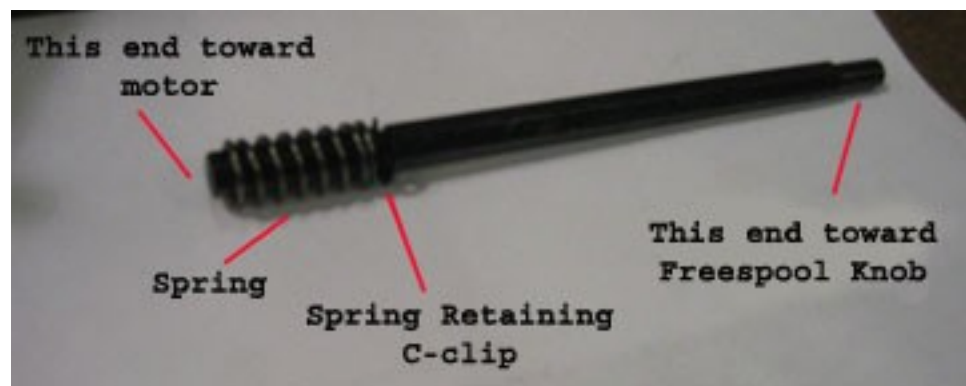

Fig. 5
11. Then put the Clutch Return Spring on the Drive Shaft by placing it on the hexagonal end near the spring retaining C-clip. [See Fig. 5]